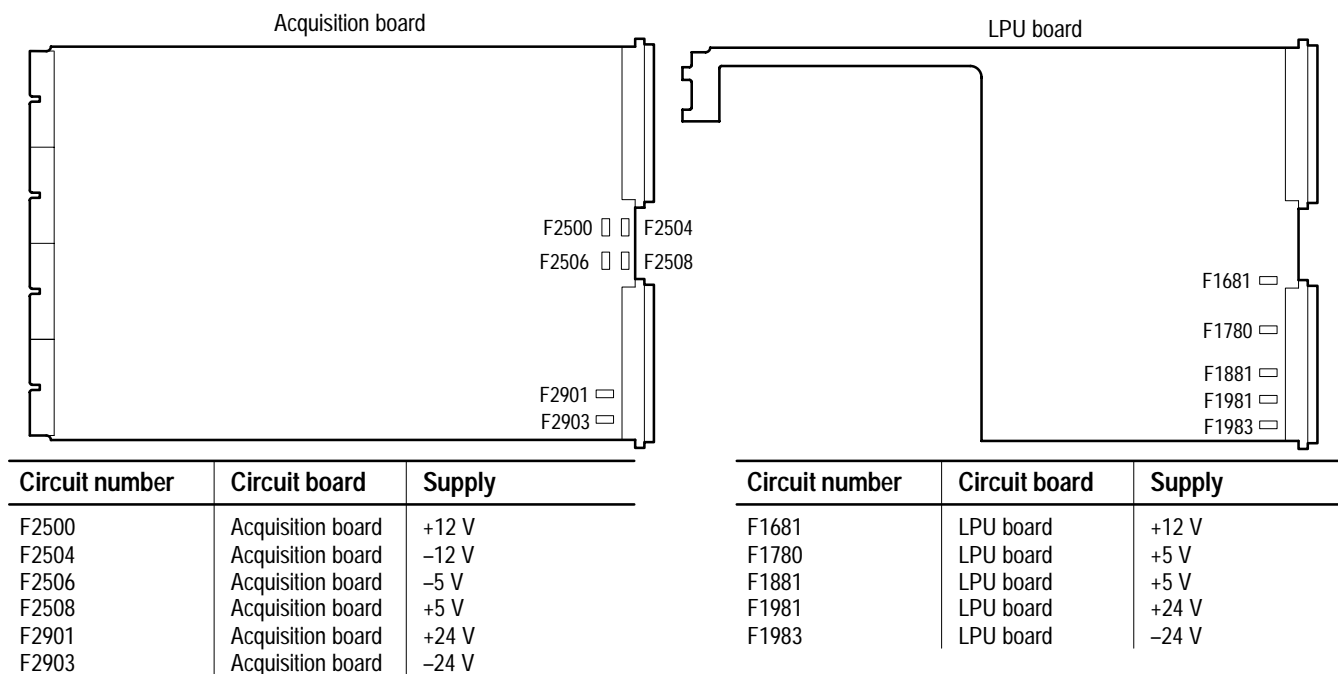

Figure 6–12: Fuse replacement
**Removal** Use the following procedure and Figure 6–12 to remove the fuses.
2. Use Figure 6–12 to locate the fuse to be replaced on the component side of the boards. For fuses mounted on the back side of the Acquisition board, perform the *Acquisition Board* removal procedure (see page 6–19).
**Installation** Use the following procedure and Figure 6–12 to install the fuses.